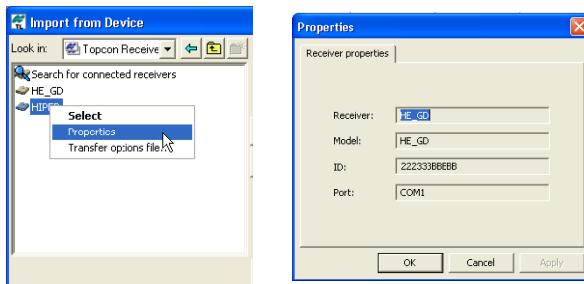

Figure 2-8. Receiver Properties
- To view information about the receiver, right-click the desired receiver and select the *Properties* option (Figure 2-8).